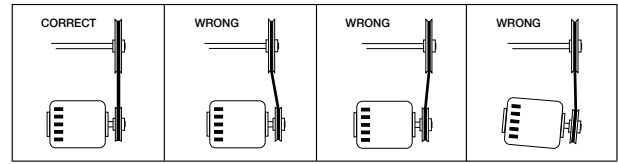

Figure 11
9. If adjustments are made, it is very important to check the pulleys for proper alignment. Misaligned pulleys lead to excessive belt wear, vibration, noise and power loss. See Figure 11.